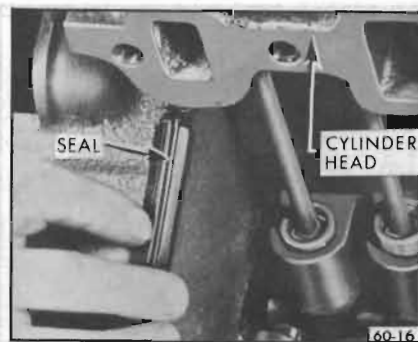

Figure 60-106—Intake Manifold Seal Installation
1. Place new rubber manifold seal in position at front and rear rails of cylinder block. Be sure pointed ends of seal fit snugly against block and head. See Figure 60-106.